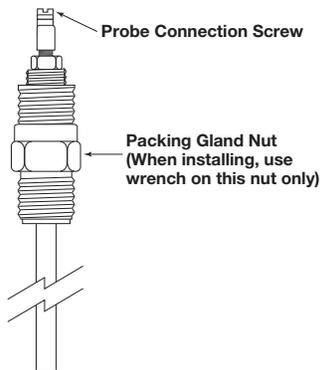
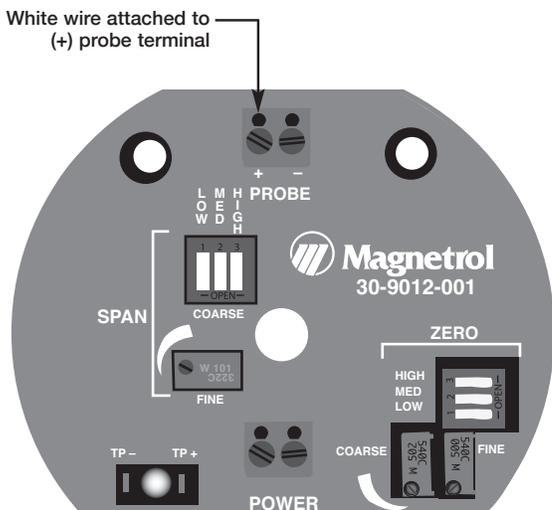
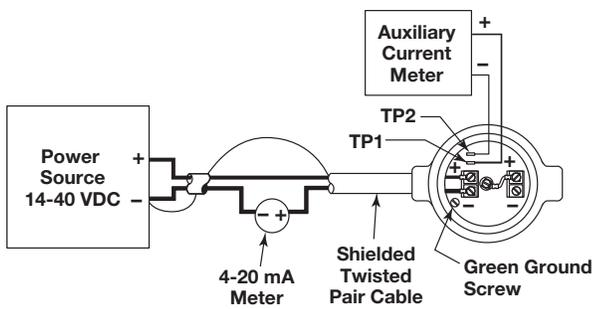

Figure 1
Figure 3
Figure 5
1. Thread the probe into the mounting connection on the vessel. Tighten securely, making sure that the wrench is applied **ONLY** to the mounting nut. Refer to Figure 1.
1. Remove the housing cover. Locate the white wire which is fastened to the (+) probe terminal. Refer to Figure 3. Connect the free end of this wire to the probe connection screw. Refer to Figure 1.
3. Remove the transmitter housing cover. Connect the positive lead of the interconnection cable to the (+) probe terminal. Connect the negative lead and shield to the (-) probe terminal. Refer to Figure 3 on page 6.
2. Connect the positive supply wire to the (+) terminal and the negative supply wire to the (-) terminal. Connect the shield to the green ground screw at the base of the housing. Make the shield wire as short as possible. Refer to Figure 3 on page 6, and Figure 5.